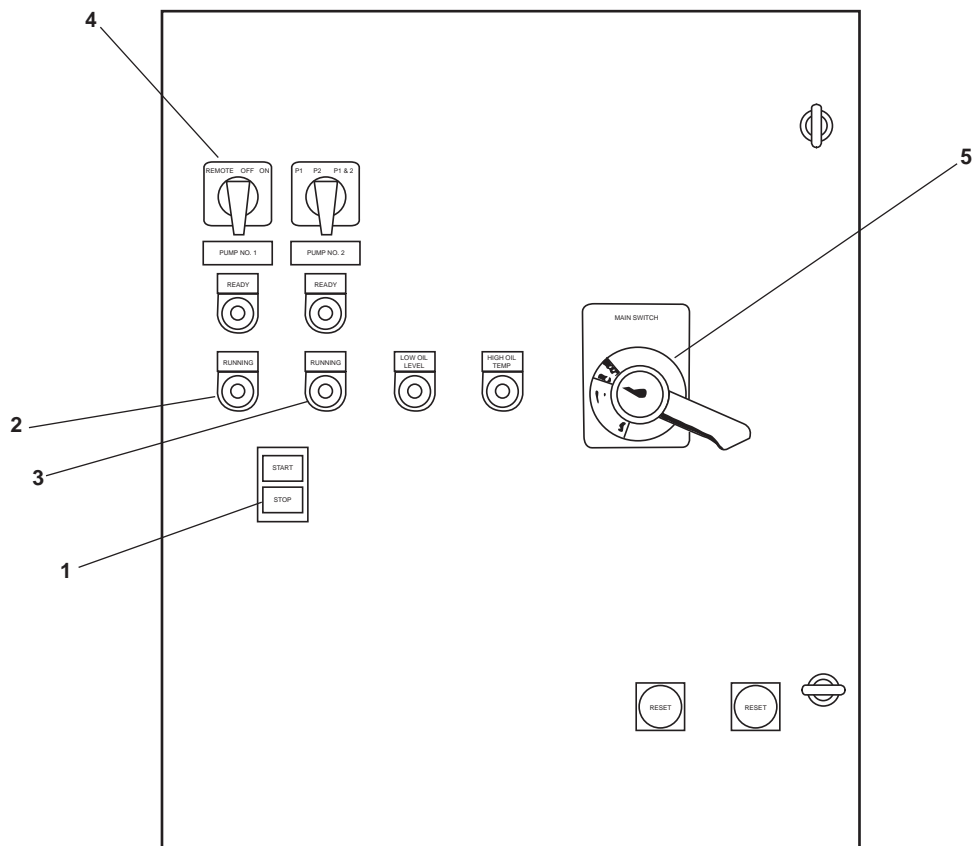

Figure 1. Central Hydraulic System HPU Motor Controller
1. If local operation was selected during the startup procedure (WP 0076 00), press the STOP pushbutton (figure 1, item 1) at the central HPU motor controller. If remote operation was selected during the startup procedure (WP 0076 00), press the STOP pushbutton (figure 2, item 1) at the remote control station.
2. Verify that the RUNNING indicator(s) (figure 1, items 2 and/or 3) extinguish for the selected pump(s).
3. Set to OFF the REMOTE/OFF/ON switch (figure 1, item 4) on the central HPU motor controller.
4. Set to OFF the MAIN SWITCH (figure 1, item 5) on the central HPU motor controller.